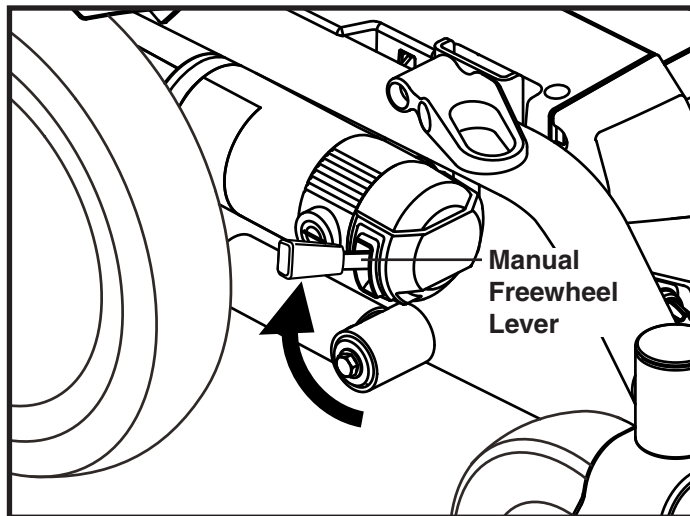

Figure 4. Drive Mode (Drive Engaged)
3. Pull up both manual freewheel levers for drive mode (drive motor engaged). **See figure 4.**